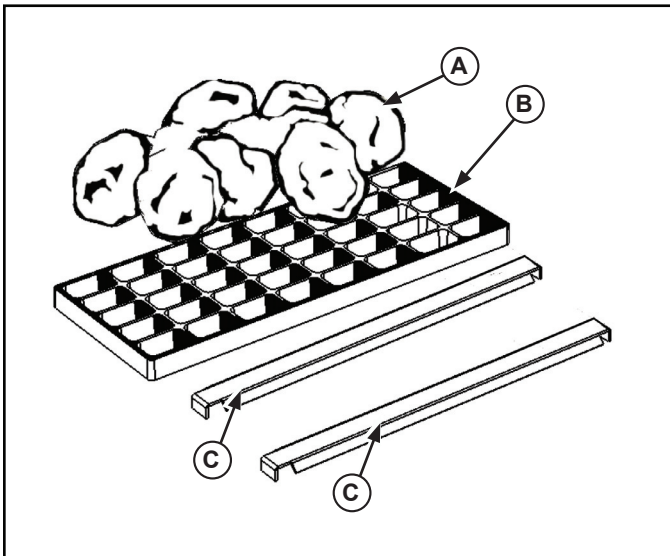

Figure 2. Lava Rock Components.
2. Remove the lava rock (A) and save for future reuse. See Figure 2.
3. Remove the waffle grates (B) and save for future reuse.
4. Remove the lava rock covers (C), save for future reuse.
3. Place the lava rock covers (C) over the burner tubes. See Figure 2.
4. Set the waffle grate(s) (B) into place.
5. Set the lava rock (A) onto the waffle grate(s) (B) and spread out evenly.